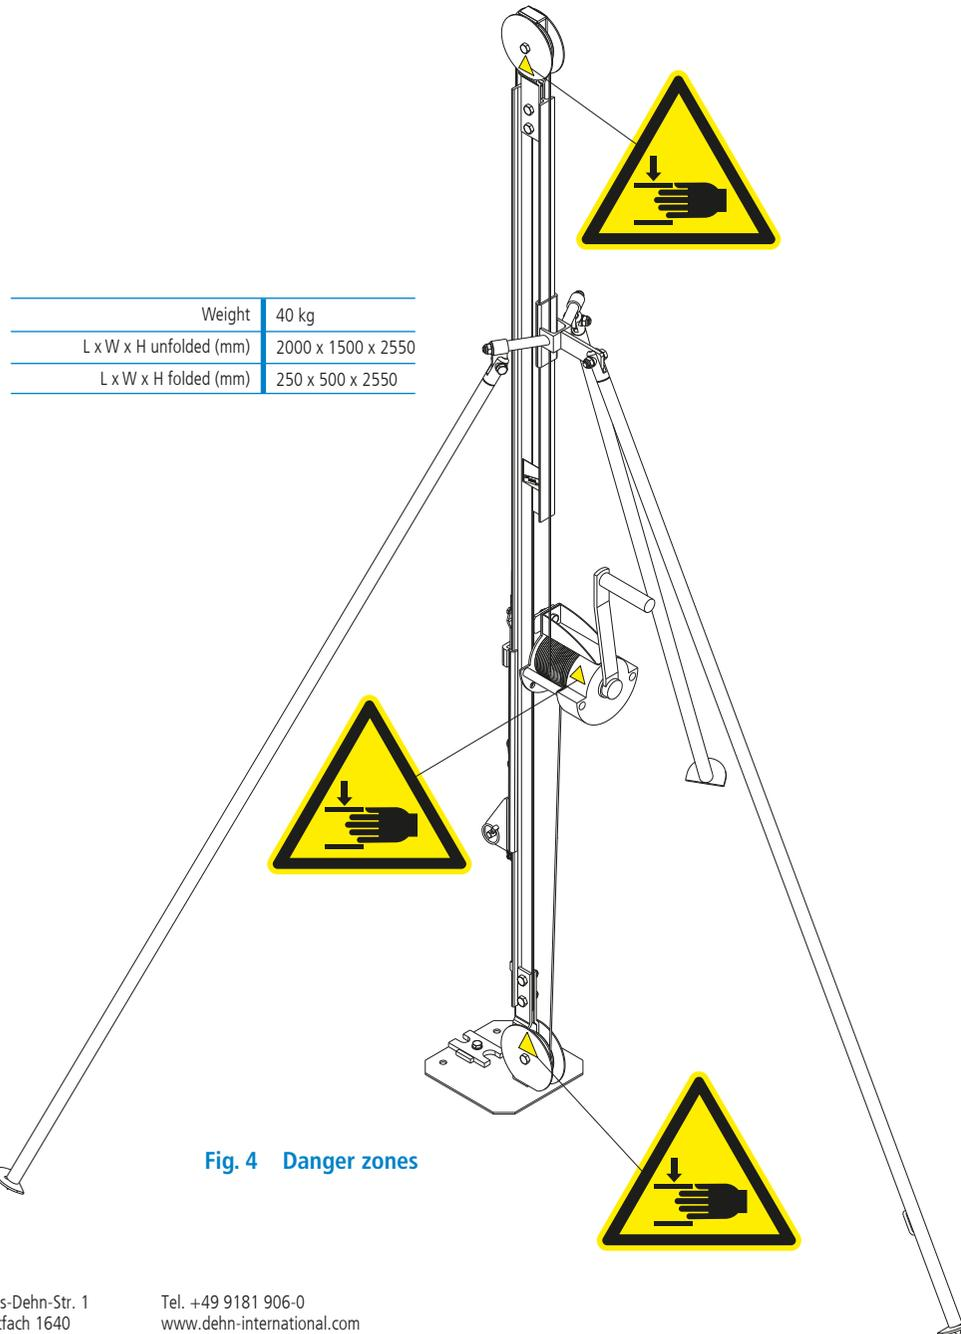

Fig. 4 Danger zones
- When operating the hammer frame, care must be taken to avoid touching open joint guides, the winch and pulleys. Dangerous points are marked (see Fig. 4).